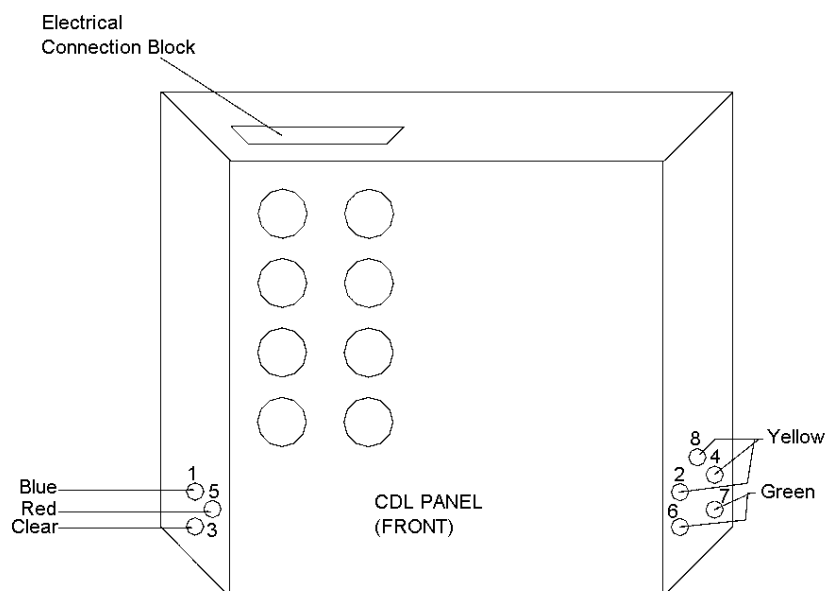

Figure 1: Air Pipe Connections to Central Door Locking Control Panel
11. Position the overhauled panel and make the eight pneumatic connections to the pneumatic module by pushing the nylon pipe into the appropriate fitting (control panels types 1 and 2 only). Check that the correct connections are made to each port, these being numbered 1 to 8 and that each connection is secure (see Figure 1).